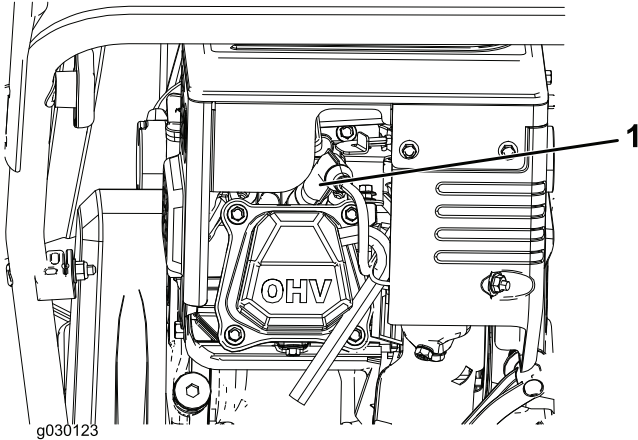

Figure 20
1. Remove the boot (Figure 20).